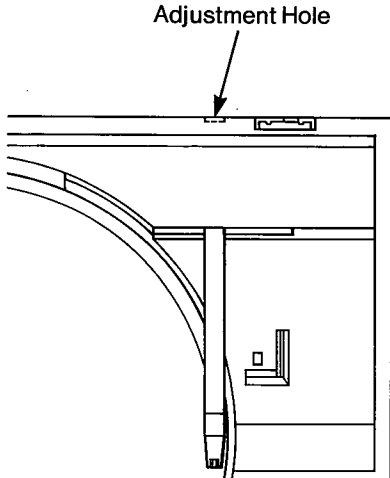

Fig. 1
3. Press \triangleleft button on the control panel to shift the tonearm to the place as indicated in Fig. 1.